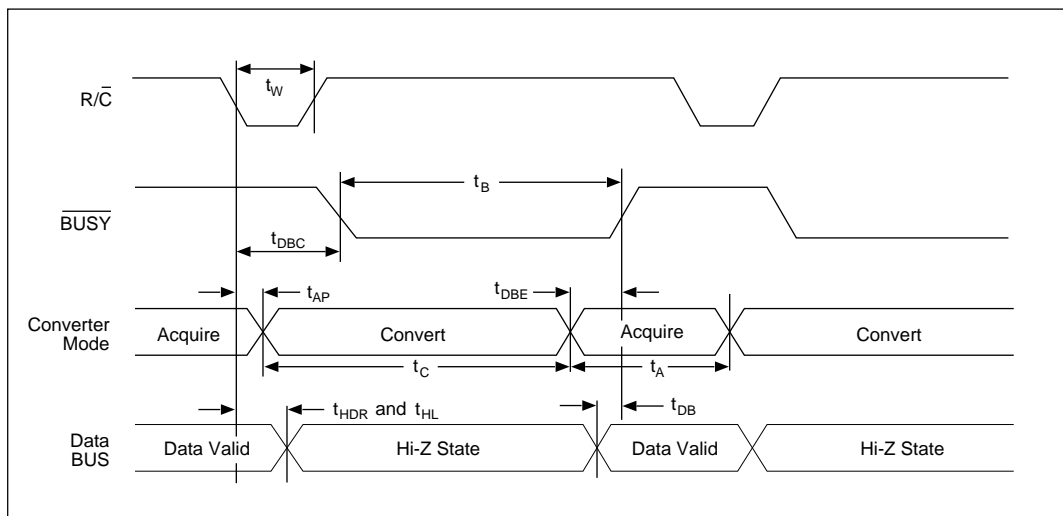

Figure 5. Convert Mode Timing —  $R/\bar{C}$  Pulse LOW, Outputs Enabled After Conversion
*Figure 5* illustrates timing when conversion is initiated by an R/C pulse which goes LOW and returns HIGH during the conversion. In this case (Convert Mode), the three-state outputs go into the Hi-Z state in response to the falling edge of R/C, and are enabled for external access to the data after completion of the conversion.